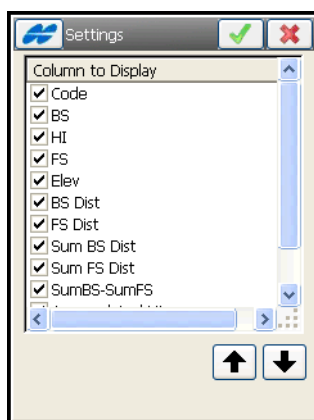

Figure 8-85. Change Display Columns
6. To select the columns and the order of the columns to display in the fieldbook, use the *Display Settings* option from the bitmap in the upper-left corner of the screen (Figure 8-85 on page 8-76).